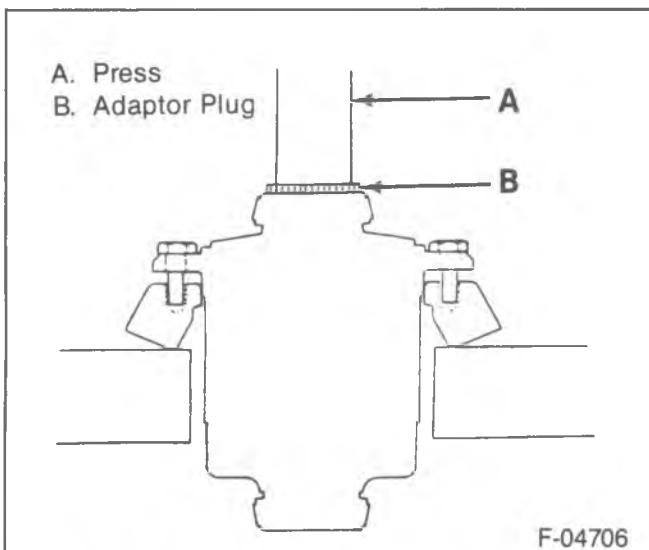

Figure 18—Installing the Ring Gear to the Case
- Press the ring gear onto the case far enough to start the bolts using J-8107-4 to protect the differential from the press ram (figure 18).
- 7. New ring gear bolts (23).